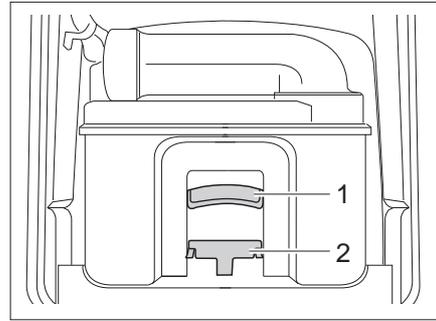

Fig. 164 Thetford cassette
- Pull the retaining clip (Fig. 164,2) forward to unlock the toilet cassette and pull out the cassette at the handle (Fig. 164,1).